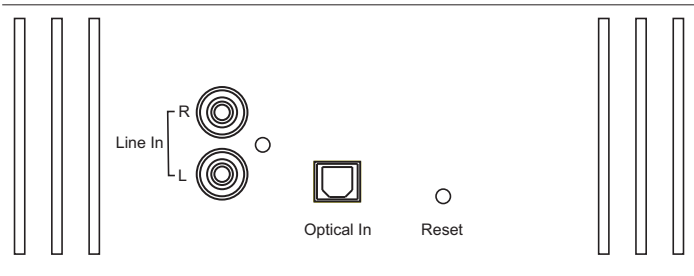

Figure 12 - Audio Input Options
Your TV Audio Mount has three ways to input the audio from your TV (see Figure 12).
3. Optical output is located on your TV panel in the Audio Out section. Look for a square connector marked Optical or S/PDIF. The audio inputs for the TV Audio Mount are shown in Figure 12.